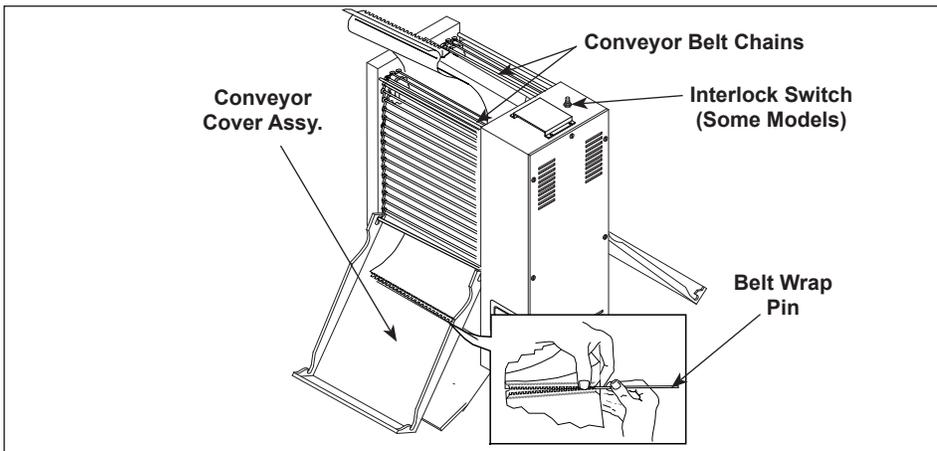

Figure 6. Removing Optional Belt Wrap
3. Open both Conveyor Covers and pull the Belt Wrap Pin out of the zipper (Figure 6).
Hi-Limit Control is tripped.	Reset the Hi-Limit Control (see Figure 6 in the Operations section of this manual).